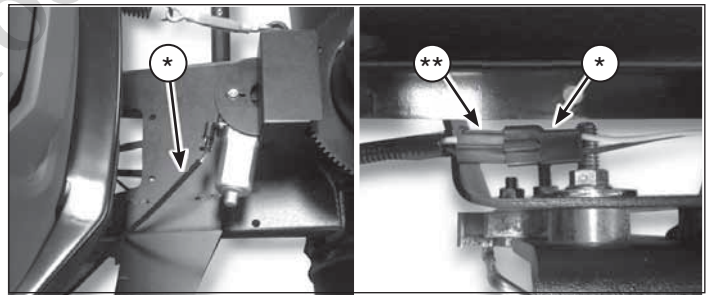

Figure 22
6. Connect the chute rotation wiring harness (*, Figure 22) from the snowthrower to the square black plug with the upper wiring harness (**). Position the wiring heat cover underneath the muffler.